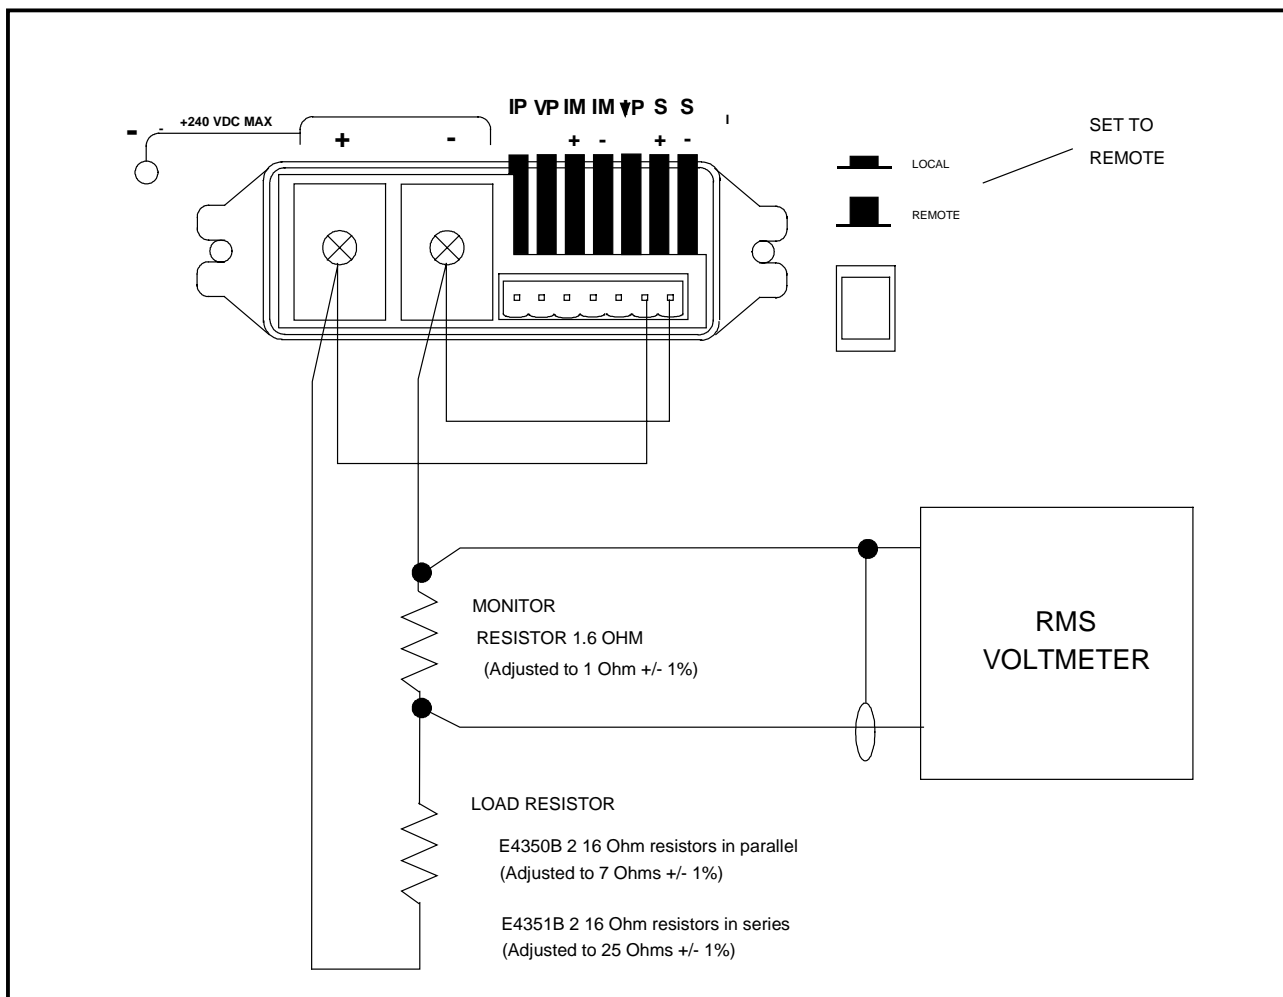

Figure 2-3. CC RMS Noise Measurement Test Setup
- CC RMS Noise Measurement Setup (Figure 2-3)
<p>* Enter your results in this column</p> <p>** PARD (Optional Test in SAS mode)</p> <p>Program I - V Curve: $I_{SC} = 8A$ $I_{MP} = 7.5A$ $V_{MP} = 60V$ $V_{OC} = 65V$ $R_L = 8$ Ohms.</p> <p>Use Fig 2-3 with scope across monitoring resistor for P-P ripple or RMS voltmeter for RMS.</p>
<p>* Enter your results in this column</p> <p>** PARD (Optional Test in SAS mode)</p> <p>Program I – V Curve: $I_{SC} = 4A$ $I_{MP} = 3.75A$ $V_{MP} = 120V$ $V_{OC} = 130V$ $R_L = 32$ Ohms.</p> <p>Use Fig 2-3 with scope across monitoring resistor for P-P ripple or RMS voltmeter for RMS.</p>